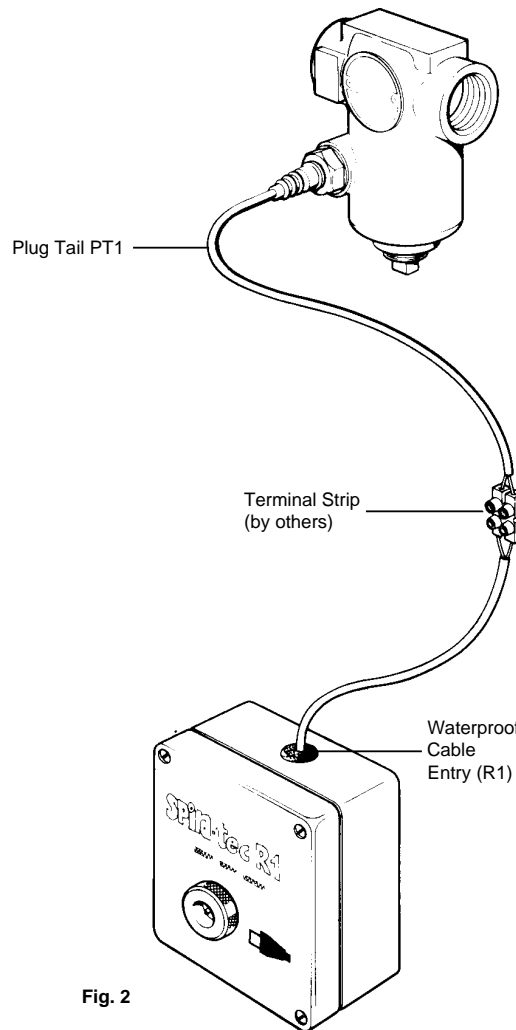

Fig. 2
3. Connect the Plug Tail PT1, PT2, or PT3 into the pipeline sensor chamber. Extend the 4-ft (1.25 m) of cable provided by connecting on a suitable length of twin core cable. The type of cable is not critical – lightweight wire with 20 gauge conductors or 7/0.2 multi-strand wire will suffice. Similarly, the type of connection is not critical, but it should be made waterproof if exposed to moisture. The extension cable should be passed through the cable entry (Fig 2).